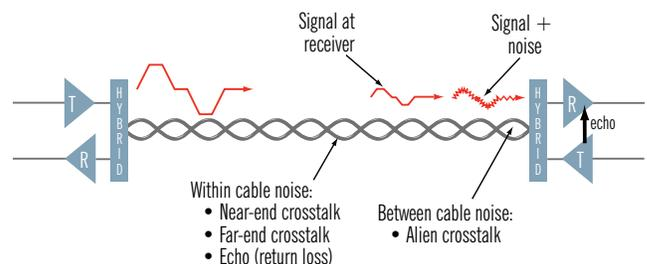

Figure 3: Signal Impairments at the Receiver
The 1000BASE-T and 10GBASE-T bidirectional signal transmission on a single pair is enabled by a device called a hybrid. The hybrid stops the local transmitted signals from being mixed with the local received signals. Bidirectional transmission on the same wire can result in echo. Echo is the combined effect of the cabling return loss and the hybrid function appearing as noise at the receiver. Return loss (RL) is a measurement of the reflected energy caused by impedance mismatches in the cabling system. In a balanced twisted-pair cabling system, the impedance should normally be 100 ohms. Far-end crosstalk (FEXT) is another noise source, which is induced by a transmitter at the near-end into a far-end receiver due to unwanted signal coupling (Figure 3). FEXT needs to be considered in multipair, bidirectional signaling such as 1000BASE-T and 10GBASE-T. Pair-to-pair equal level far-end crosstalk (ELFEXT), also known as attenuation crosstalk ratio far-end (ACRF), is expressed in decibels as the difference
Figure 3 illustrates the bidirectional signal transmission on one of the four wire pairs used for 1000BASE-T and 10GBASE-T. The transmitted signal is impaired by the cable insertion loss. The FEXT and NEXT from the other three pairs and the echo combine with the received signal. The ratio of the impaired signal to the noise (e.g., FEXT, NEXT and echo/return loss) is the signal-to-noise ratio (SNR). The SNR at the receiver is the most important figure of merit for a communication channel.